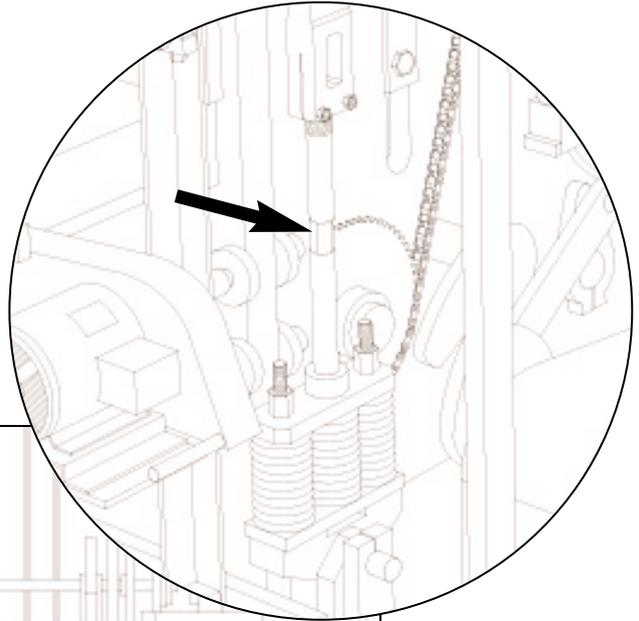

Figure 18.31 ADJUSTING PALLET RECEIVER
- 18.2.8 Run the machine to first stop and adjust the pallet receiver links to obtain a dimension of **1268mm [49.938"]** from the top of the base plate to the top of the pallet receiver rubbers. (see figure 18.31 and 18.32).